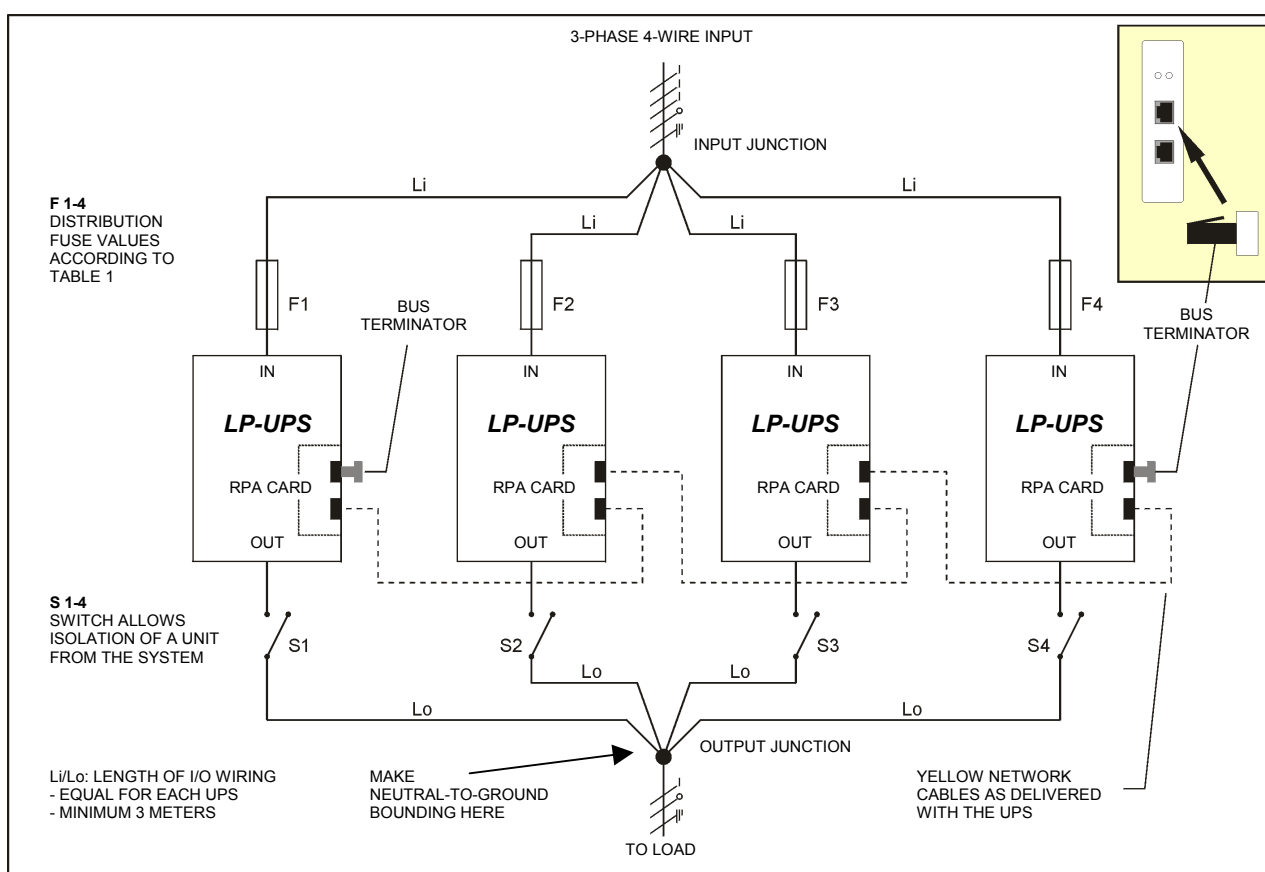

Figure 10. Installation of parallel operating LP 31T UPSs
2. All outputs must be connected together, supplying the load. It is advised to install switches (S 1-4, fig. 10) in the output wiring, in order to be able to isolate a unit from the remaining system for service and maintenance purposes. It is advised to make a Neutral-to-Ground bounding in the output junction.
4. The length of all input cables from the input junction (Li, fig. 10) to the UPS inputs should be equal. The same applies to the cables from the outputs to the output junction (Lo, fig. 10). The minimum length of the input as well as the output cables is 3 meters.
7. Interconnect the RPA-cards of the units, using the yellow network cable that came with the UPS. See figure 10 (dotted line). Do not install other cables than the ones delivered with the UPSs! Of the first and the last UPS in the system only one RPA-socket is used to interconnect the UPSs. A bus terminator must be placed in the other (free) RPA-socket. The required bus terminators have been delivered with the unit.
2. Remove the installation fuses (3x) from the input of that UPS (F1-4 in figure 10),
3. Separate the output of the UPS from the output junction (S1-4 in figure 10).